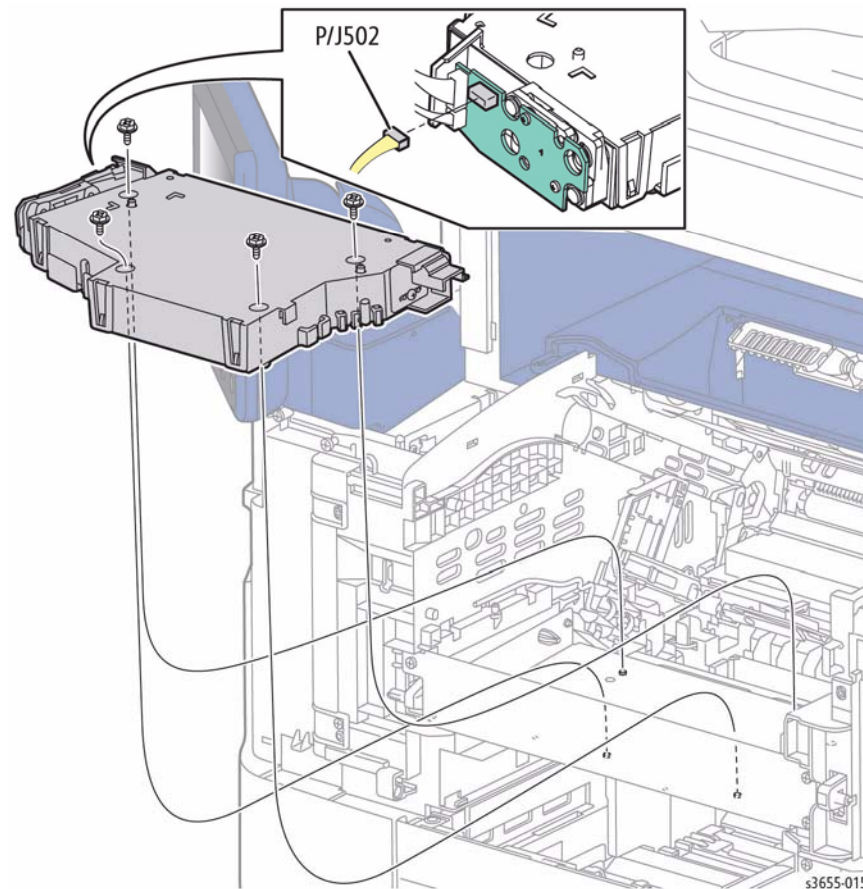

Figure 4 Remove the Laser Unit
9. Refer to Figure 4 to locate and remove 4 screws (silver, flanged, tapping, 10mm), disconnect the Laser Unit and lift to remove .